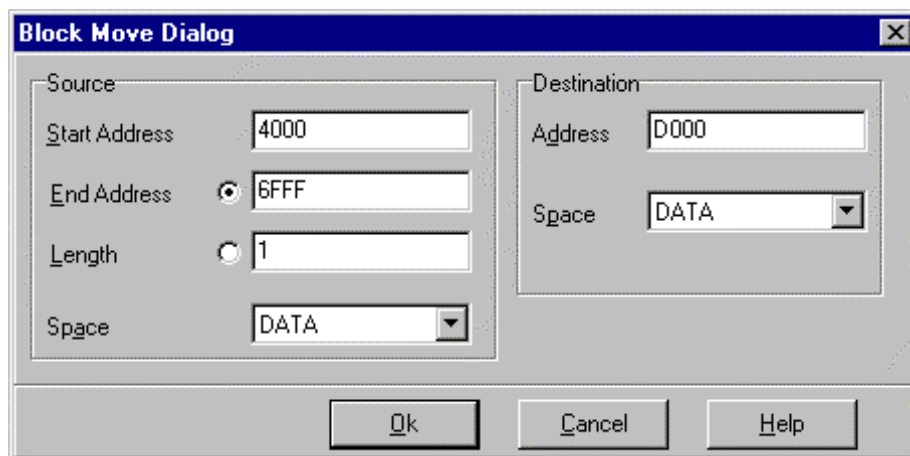

Figure 80. Block Move Dialog Box 2
6. Right-click in the Data window. Select **Block**, then click **Block Move**. The **Block Move** dialog box opens. Enter data as shown in Figure 80: